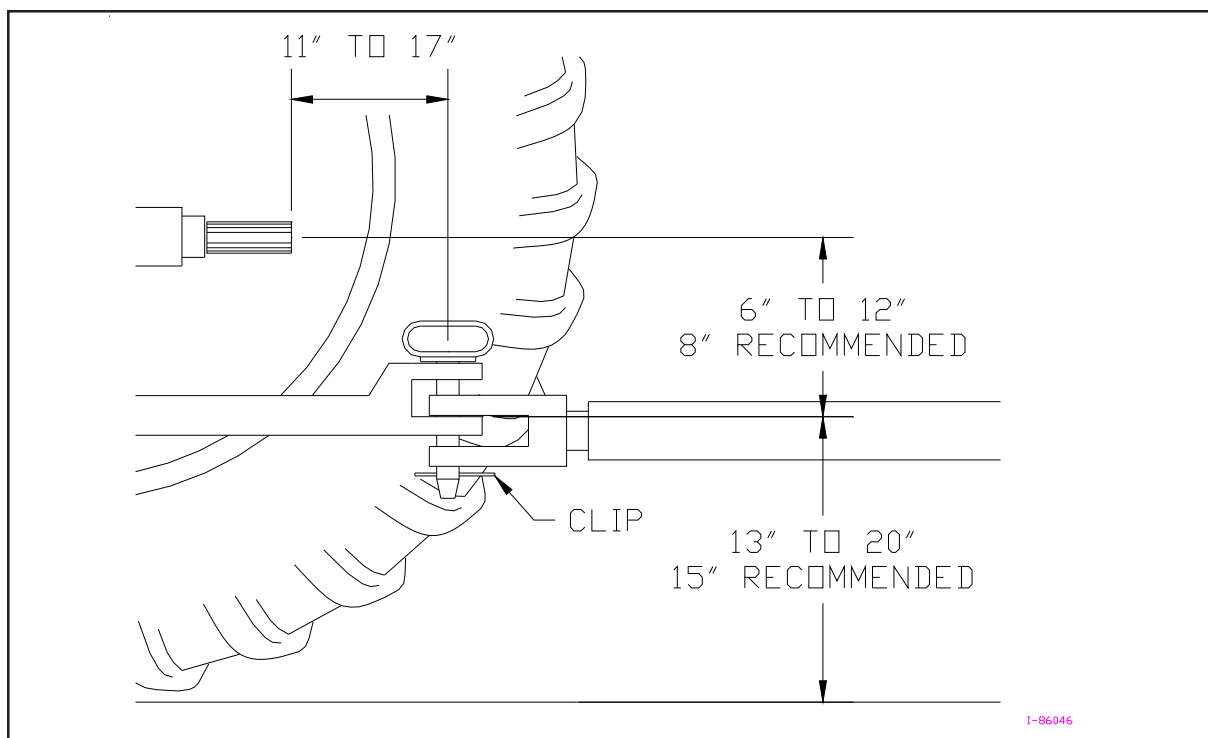

Figure 2A - Specifications for Connecting the Spreader/Tractor Hitch
The spreader hitch is designed to work with a standardized tractor hitch. To connect the spreader hitch to the tractor hitch, refer to Figure 2A and adhere to the following guidelines:
- Adjust the drawbar so that it is 13 to 20 inches above the ground as shown in Figure 2A.
- **For PTO units only:** Extend or shorten the tractor hitch to obtain the horizontal distance from the end of the tractor power take-off (PTO) shaft to the center of the hitch pin hole (Figure 2A).
**WARNING:** Damage to the spreader or other vehicle, as well as injury to the operator, may occur if a properly-sized hitch pin is not installed as recommended. Note that the installation of the safety clip, as noted in Figure 2A, is also required for safe spreader operation.